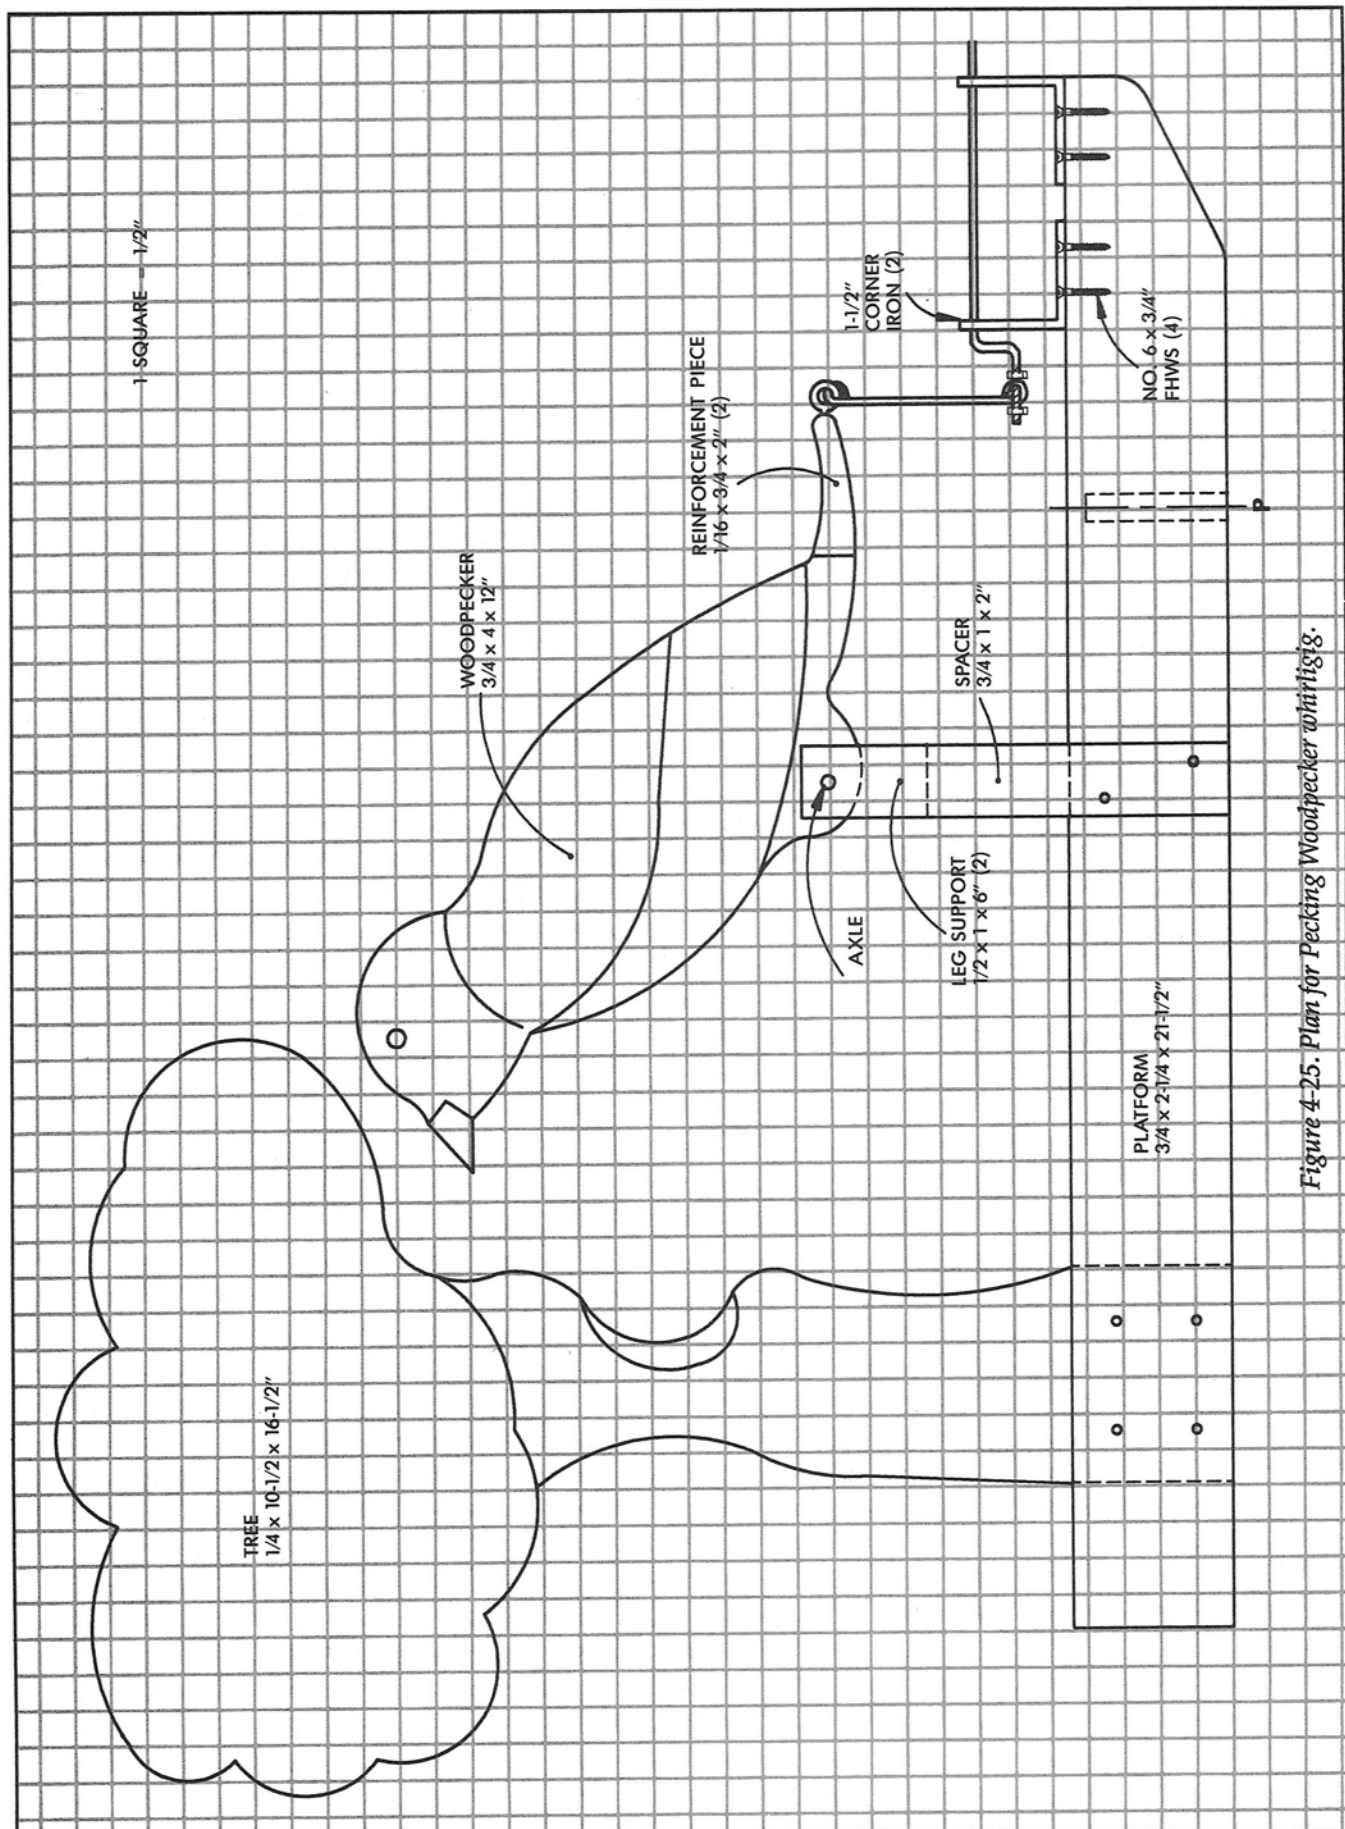

Figure 4-25. Plan for Pecking Woodpecker whittig.
1. Make the platform and mark off where objects will be located (Fig. 4-25). Drill the pivot socket 6 in. from the front. Cut a 1/4 in. tail slot to 5 in. from the back. Attach the corner irons and make a standard drive shaft. Insert the tension pin and cap.